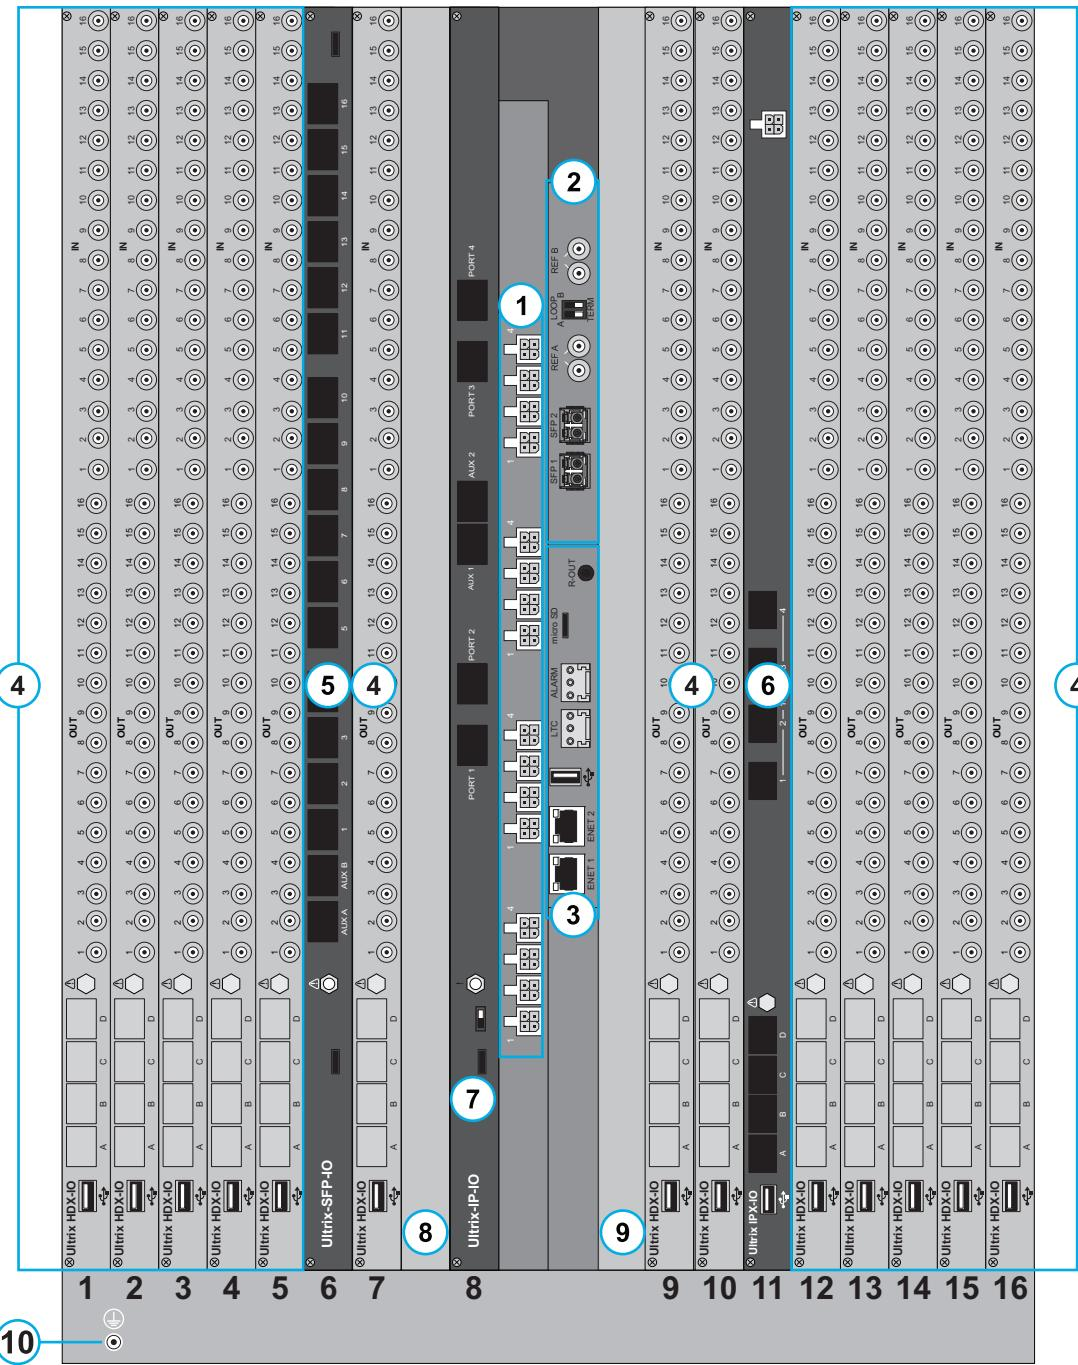

Figure 3 Example of an ULTRIX-FR12 — Rear Panel
1. Locate the ENET ports on the Frame Control CPU Module of the UTRIX-FR12 rear panel. Refer to **Figure 3** for module location.